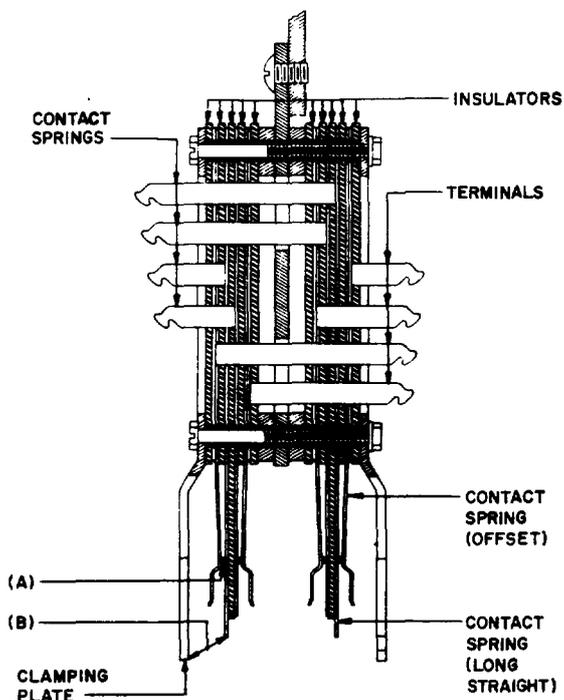

Fig. 1—Illustrating Cross-Section of 444-Type Jacks
- 2.01** *Contact Pressure*—Fig. 1 (A): There shall be a pressure between all closed contacts of
- 2.02** *Relation Between Contact Springs and Clamping Plates*—Fig. 1 (B): With the No. 301A test plug or its equivalent inserted over the long straight contact springs and the associated clamping plate, the contacts shall open. Refer to 3.03 for adjusting procedures.